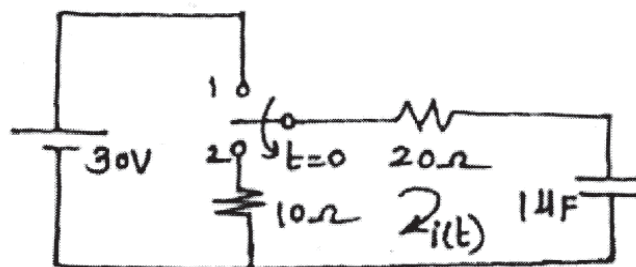

Fig. 6
- c) In the network shown in Fig. 6, switch is moved from position 1 to 2 at $t = 0$. Find $i(t), \frac{di(t)}{dt}, \frac{d^2i(t)}{dt^2}$ at $t = 0^+$ by Laplace Transform approach.